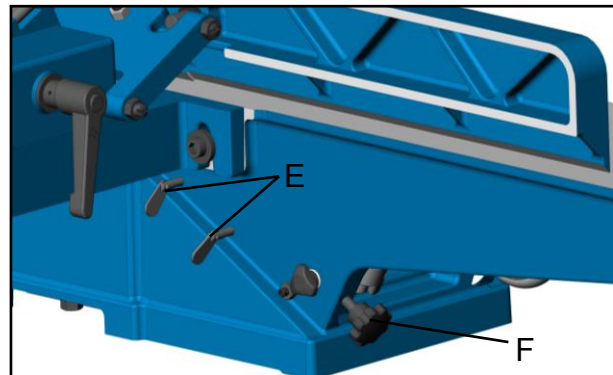

Fig. 5
5. Loosen the outfeed table height adjustment hand wheel lock knob (F) then loosen the table height setting locking levers (E), Fig. 5.